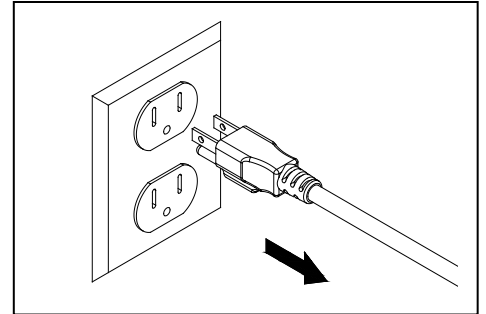

Fig. 7
1. Disconnect the UV light from the outlet. Be sure to allow sufficient time for the light to cool before disassembling the light. Fig. 7